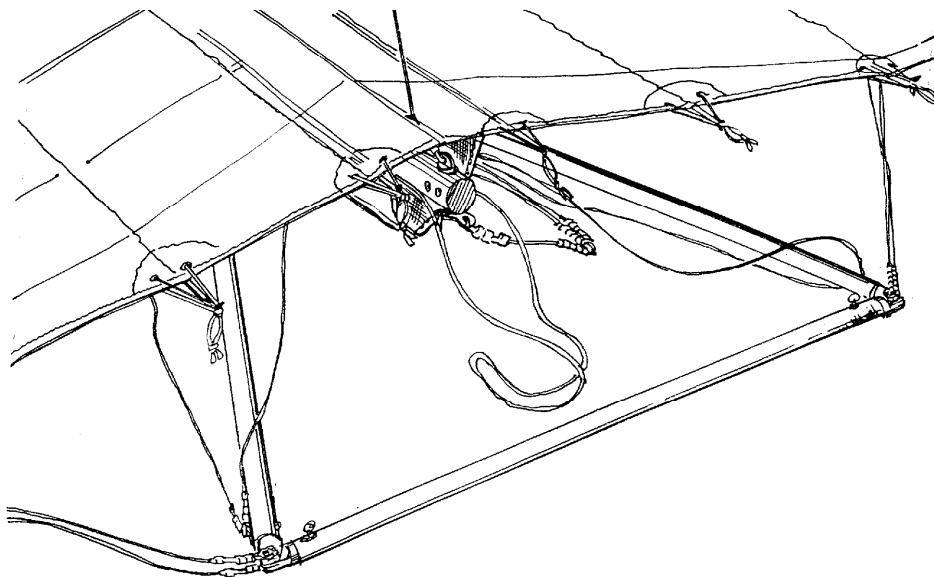

Fig.17
2.2.12. Pull the rope which is sticking out from the keel pocket until you will see the crossbar sweep wires. Remove the nut and the safety ring from the bolt which is secured to the crossbar sweep wires (these wires are attached to the crossbar center). Insert the bolt which is attached to the crossbar wire through the hole in the keel tube nearest to the nose of the wing. Fit the thimble of the other wire over the bolt and secure the assembly with nut and safety ring (Fig.17, 18).